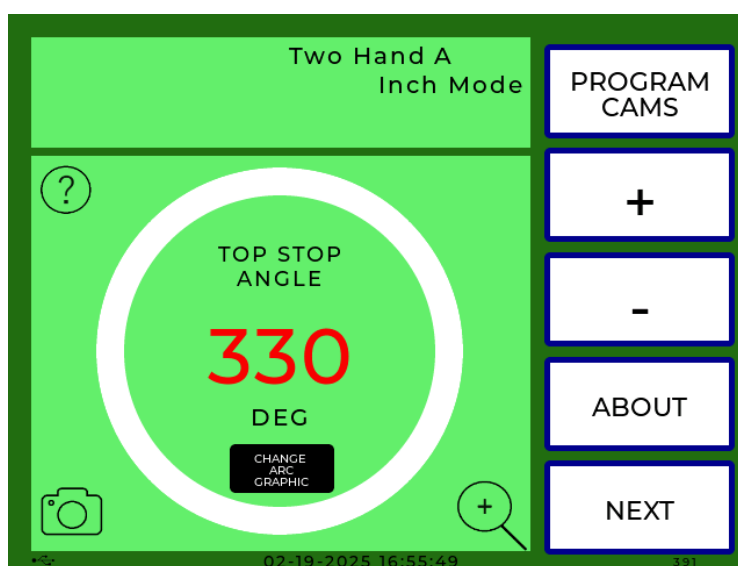

Figure 25. Top Stop Angle Screen
- Press TOP STOP ANGLE. The Top Stop Angle screen appears, Figure 25.